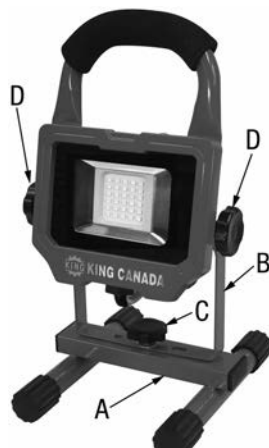

FIGURE 4
Place the base (A) Fig.4 on a flat surface. Position the U-Shape bracket (B) of the work light head onto the base (A) as shown in Fig.4. Use the lock knob (C), flat washer and spring washer to secure the work light head on the base.
Your work light can be tilted vertically up to 30° down or 90° up. To adjust the light direction, loosen the side locking knobs (D) Fig.4. Adjust the work light head to desired position, and retighten knobs.